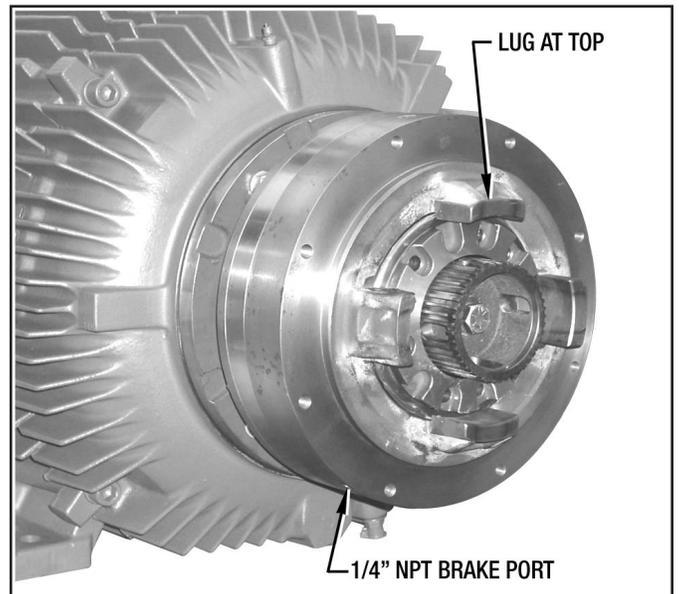

Figure 7 - Correct Position of Piston Housing Assembly
2. Carefully guide the Piston Housing Assembly into the mating diameter of the Housing (#8). See Figure 7 for the position of the brake lugs and the 1/4" NPT brake port